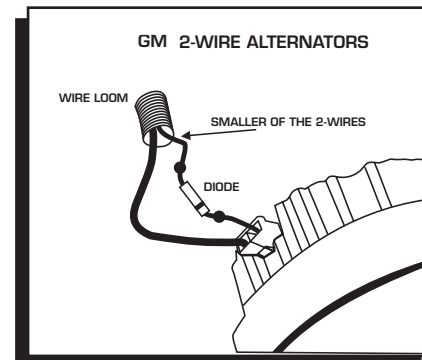

Figure 5 Installing the Diode to a 1973-1983 GM Vehicle.
**GM:** Delcotron Alternators use an internal voltage regulator. Install the Diode in-line on the smallest wire exiting the alternator (Figure 5). It is usually a Brown wire.